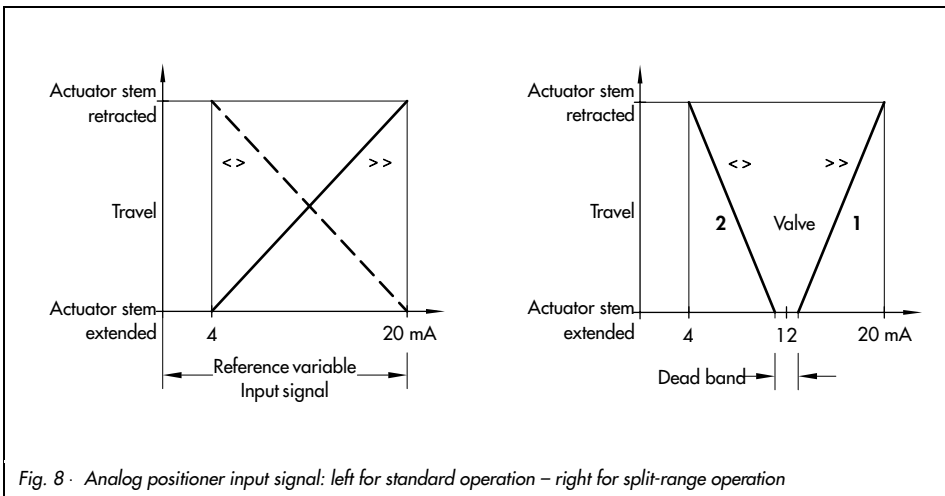

Fig. 8 · Analog positioner input signal: left for standard operation – right for split-range operation
The reference variable, usually in the range from 4 to 20 (0 to 20) mA or 2 to 10 (0 to 10) V, must be assigned to the travel of the control valve (Fig. 8 left).
In split-range operation, the control valves operate on smaller reference variables. The controller signal used to activate two control valves is divided in such a way that the valves pass through full travel at one half of the input signal range (e.g. first valve adjusted to 4 to 12 mA, and second one to 12 to 20 mA (Fig. 8 right).
1. Adjust the cam disc (1) and spindle (3) until the switching contact is released by the roller (2). Then turn the spindle back by one turn.
2. Hold the toothed wheels of the potentiometer in their position and turn the potentiometer shaft via a screwdriver counterclockwise until it stops (Fig. 8).
To avoid any overlapping when adjusting the control valves, you should allow for a dead band of, e.g.  $\pm 1$  mA (Fig. 8 right).